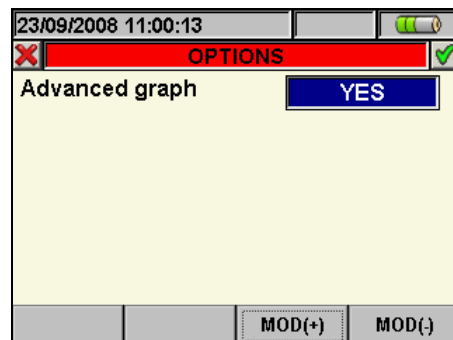

Fig. 142: Options (Advanced Graph)
- The **F4** key (or the **OPTIONS** item on the display), to access the page for the activation of the “Advanced Graph” (Fig. 142)